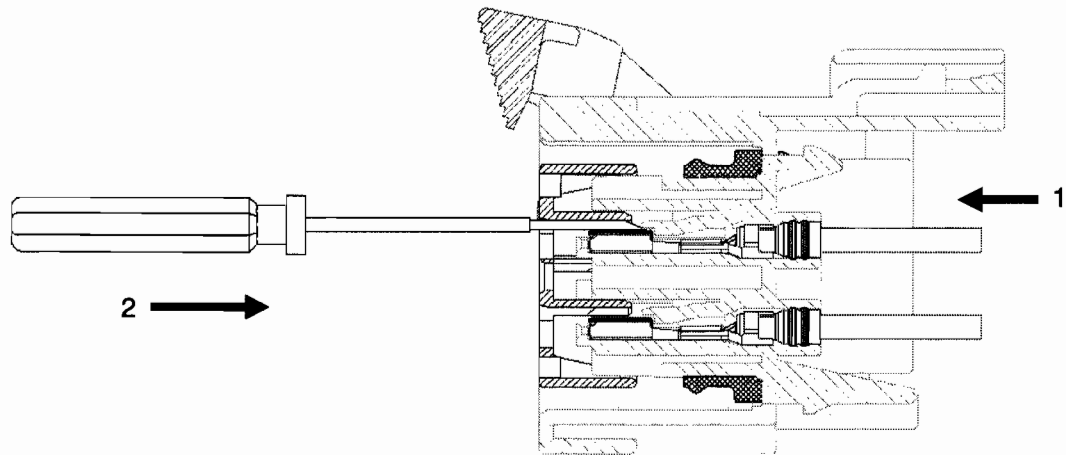

Figure 8-4C
2. Push the wire in the direction of arrow 1 (similar to Figure 8-4A), and insert the tool straight in the direction of arrow 2 as shown in Figure 8-4C below to release the housing lance.